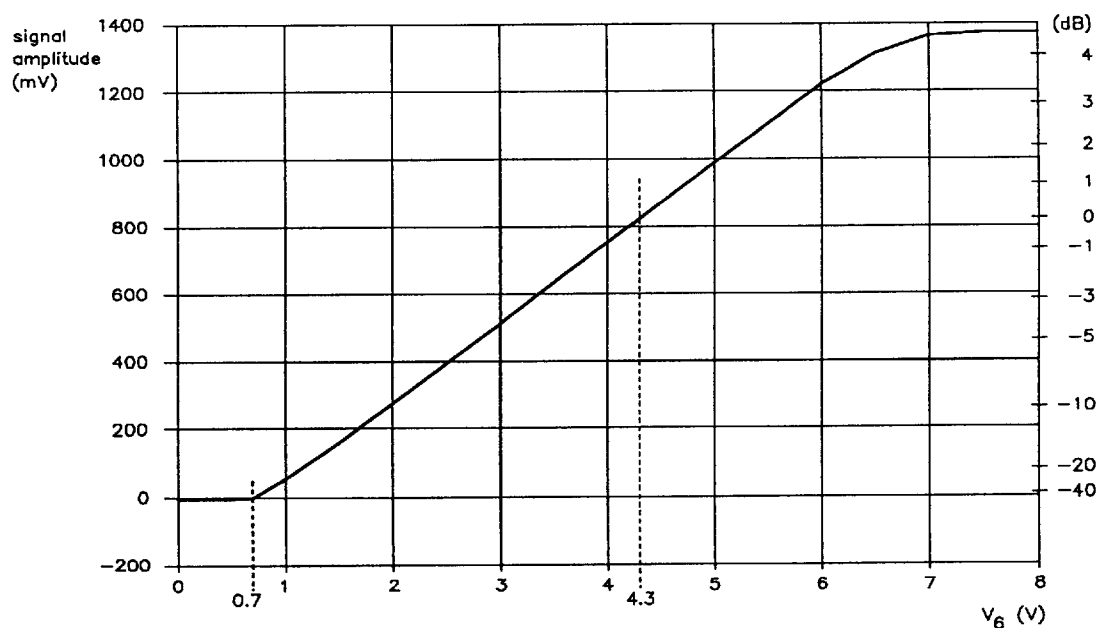

Fig.5 Typical contrast characteristic.
2. Linear control range is 1 to 6 V for  $V_6$ , independent from supply voltage. Open pin 6 leads to absolute maximum contrast setting. It is recommended to not exceed  $V_6 = V_P - 1$  V in order to avoid saturation of internal circuitry. For  $V_6 < V_{M6} \sim 0.7$  V a small negative signal ( $\sim -40$  dB) will appear. For frequency dependence of contrast control see note 14. Typical contrast characteristic see Fig.5.